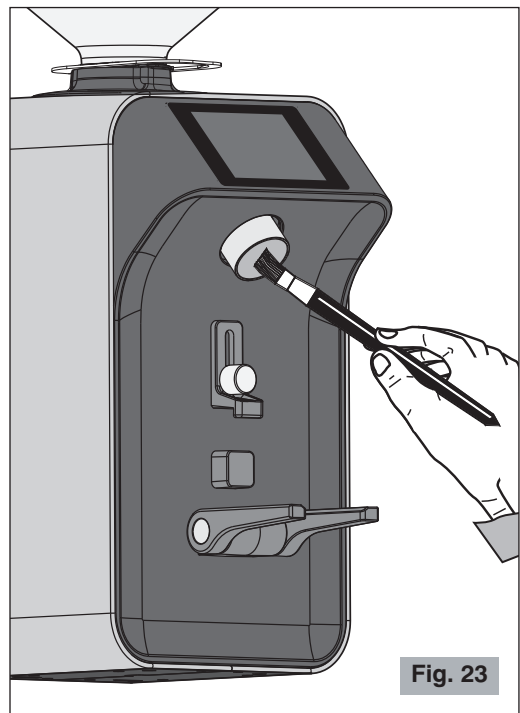

Fig. 23
- Use a brush or a paintbrush (Fig. 23) to clean the most hidden areas inside the unit and a dry cloth for the other surfaces.